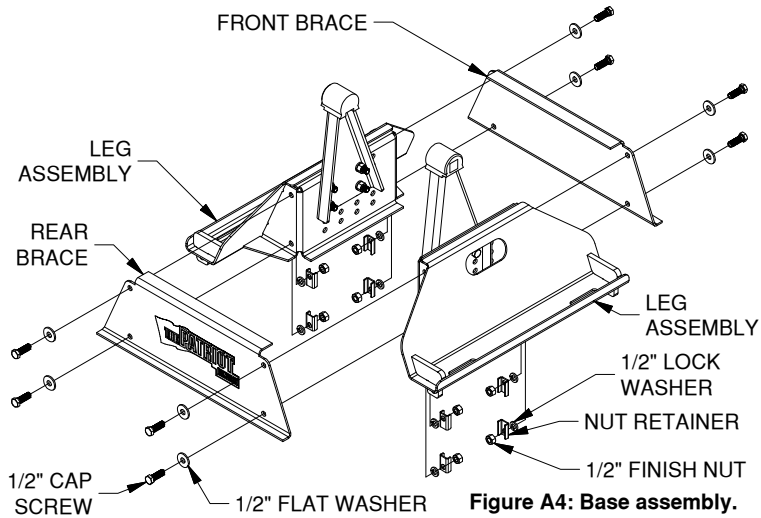

Figure A4: Base assembly.
4. Locate the front and rear brace pieces, nut retainers and the remaining 1/2" cap screws, lock washers, flat washers, & finish nuts. Attach The Front and Rear Brace to the two leg assemblies by passing four 1/2" cap screws with flat washers through each brace and base leg. Inside base leg, place lock washers, nut retainers, & finish nut on end of cap screws. see figure A4. Do not fully tighten the 1/2" cap screws at this time.